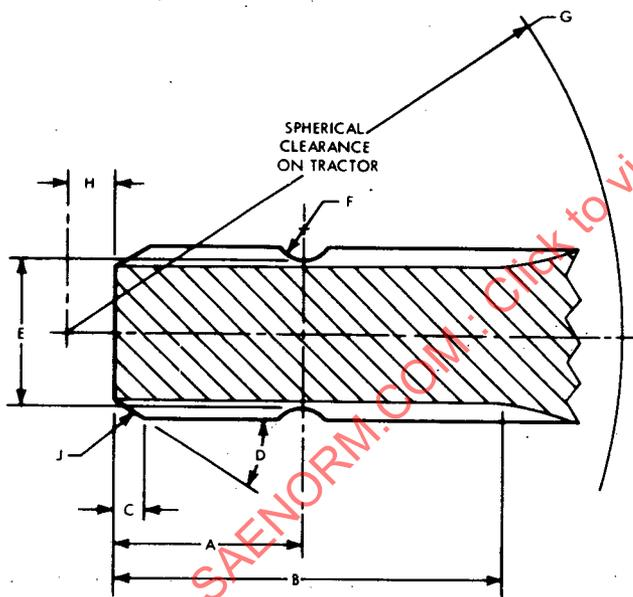

FIG. 1—POWER TAKE-OFF SHAFT (SEE TABLE 1)
2.1 The power take-off shaft (except belt-pulley shafts) for power take-off drives extending from the tractor to the rear shall have the dimensions shown in Figs. 1, 2, 3 and 4 and Table 1.
TABLE 1—POWER TAKE-OFF SHAFT DIMENSIONS* (SEE FIG. 1)